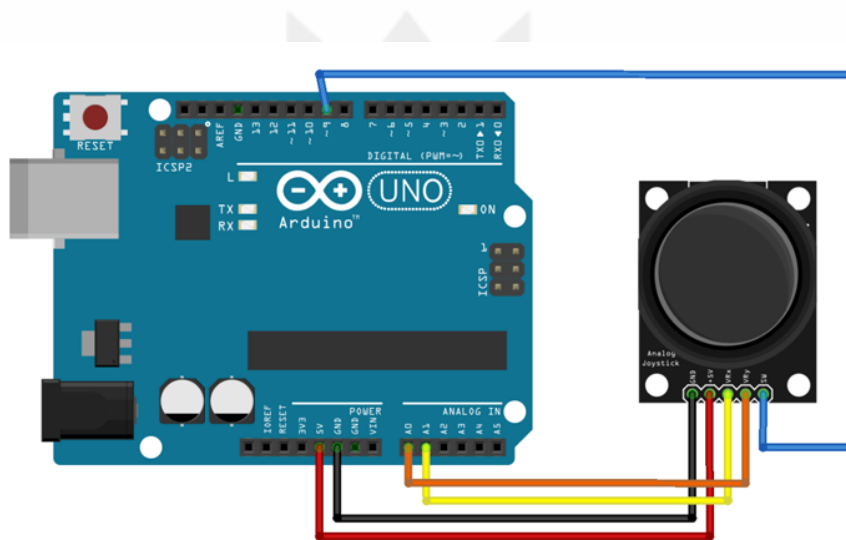

Figure 4.1 – Wiring diagram for joystick module with Arduino UNO R4 Minima
- a. Connect the joystick as shown in the **Wiring Diagram (Figure 4.1)**.